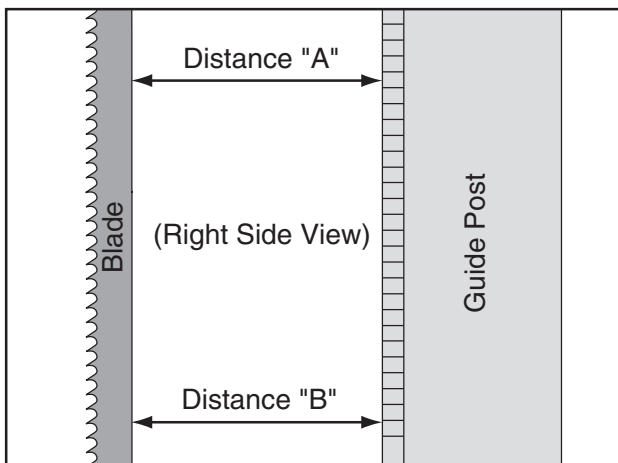

Figure 93. Example of measuring distance between rack and blade at top of guide post.
4. Measure the distance "A" between the top front face of the guide post rack and the back of the blade (see **Figure 93**).
5. Measure the distance "B" between the bottom front face of the guide post rack and the back of the blade (see **Figure 93**).